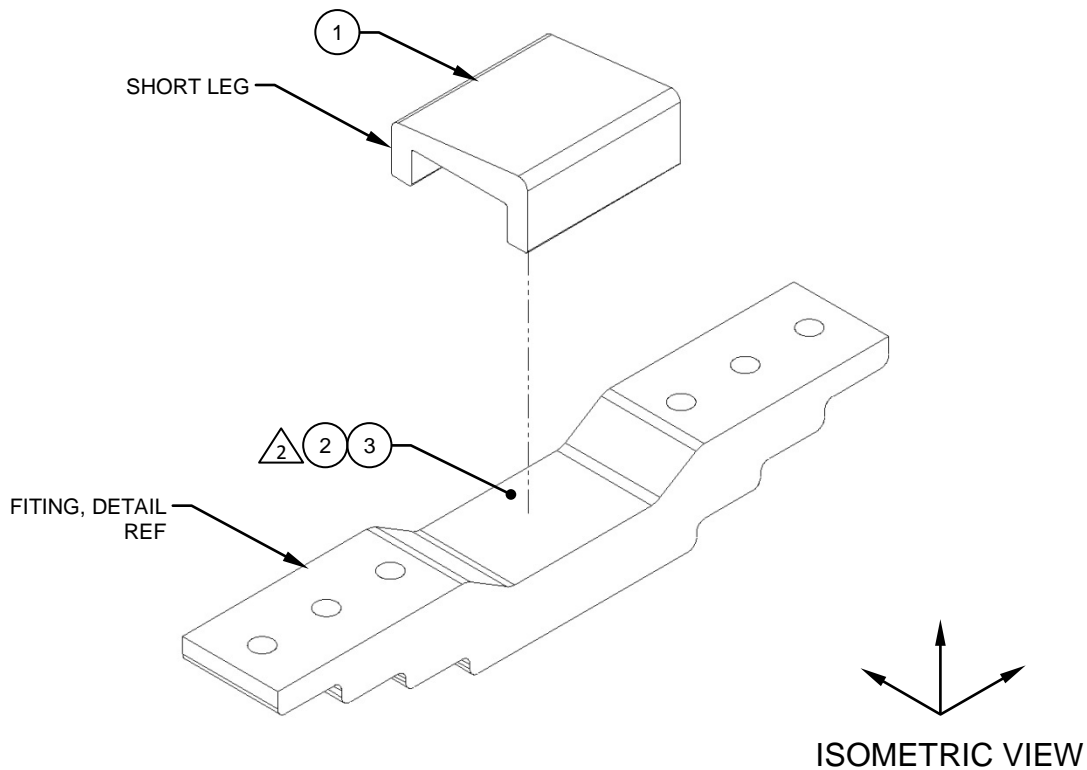

Figure 4
4. Place Bumper, Detail (Item 1) on the Fitting, Detail. Reference Figure 4.